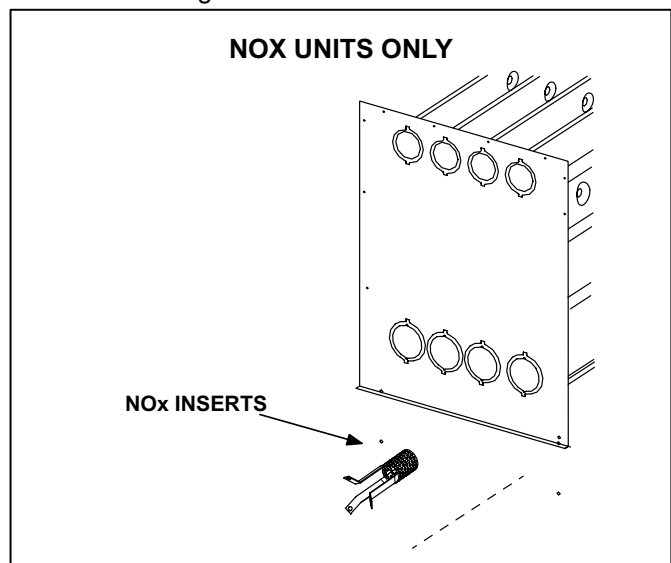

FIGURE 24
- 6 - Disconnect gas supply piping. Remove six screws securing the burner manifold assembly to the lower vestibule panel and remove the assembly from the unit. NO_x units only: remove screws holding NO_x inserts. Carefully remove inserts from each heat exchanger clam. See figure 24.